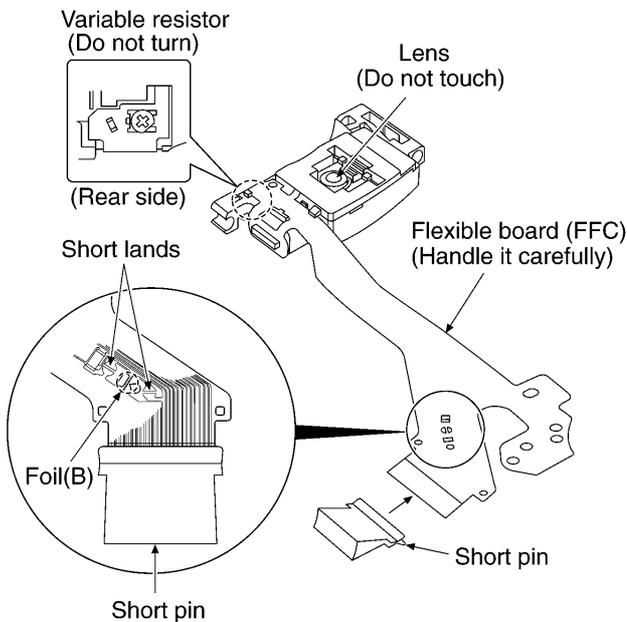

Fig. TR1
2. To protect the laser diode against electrostatic breakdown, be sure that the short land of the flexible board (FFC board) should be short-circuit by solder before pulling out the FFC. Then inserting a short pin or similar object into the tip of the flexible board. (Refer to Fig. TR1)
4. Do not turn the variable resistor (laser power adjustment). It has already been adjusted. (Refer to Fig. TR1)
2. Cut the foil (B). (Refer to Fig. TR1) (Take care not to make contact with cutting point each other.)
3. Unsolder the short lands. (Refer to Fig. TR1)